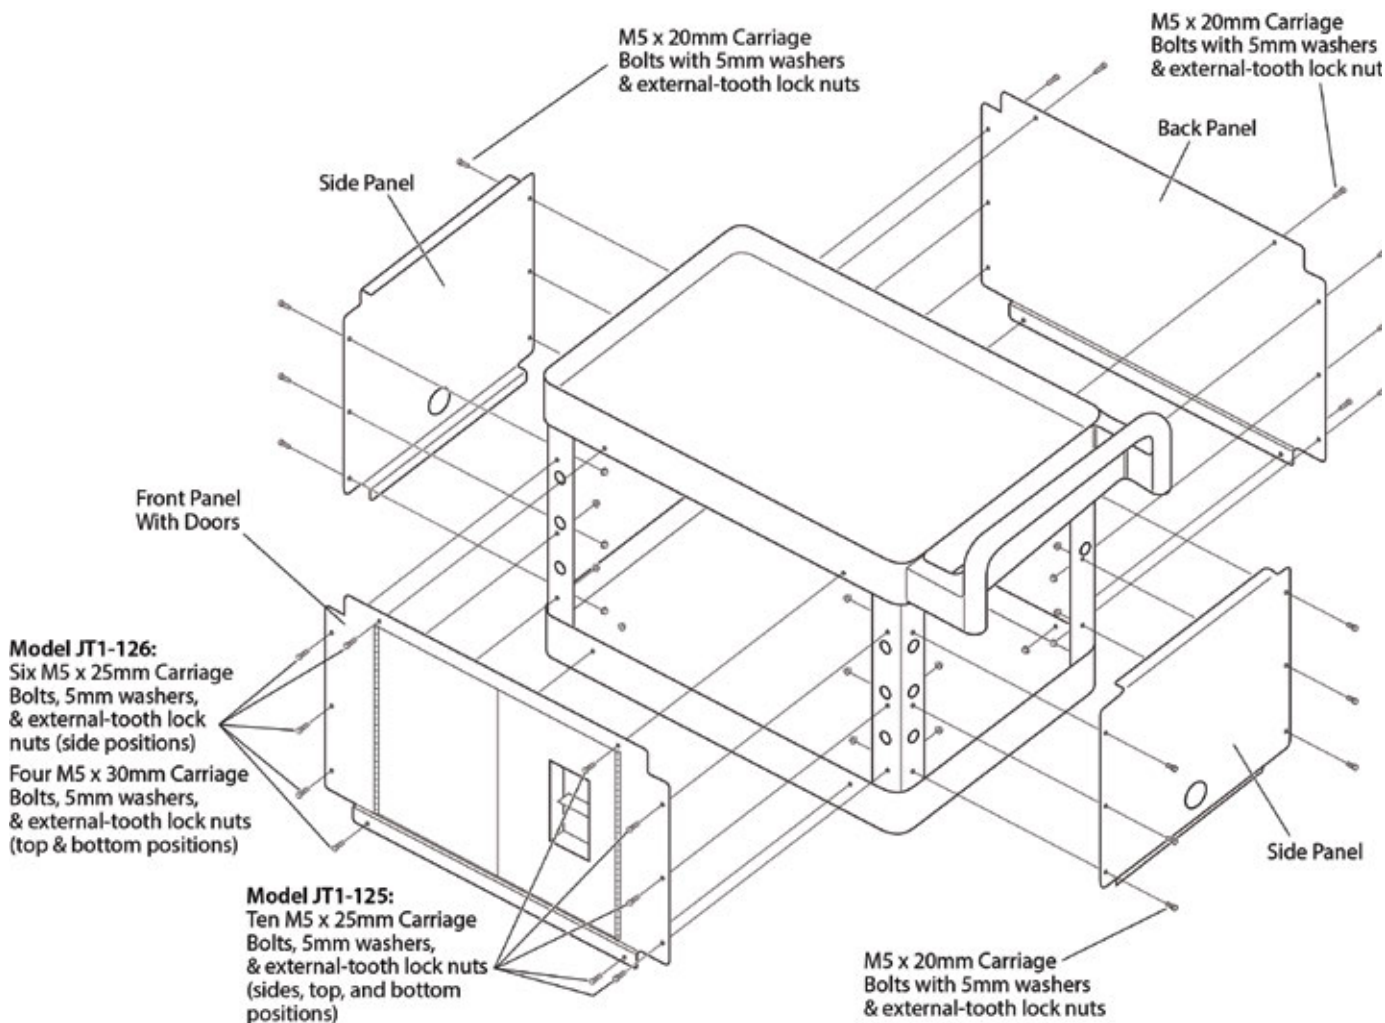

Figure 1: Installing LOAD-N-LOCK™ Utility Cart Security System Panels
Refer to Assembly Illustration (Figure 1) on Page 3
## Refer to Assembly Illustration (Figure 1) on Page 3
2. Lay the front door panel in place on the cart as shown in Figure 1. Cut the zip tie to release the latch. Rotate the latch to allow the front door panel to rest flat against the cart. Make sure the panel is centered side to side within the opening. Push the panel to the top of the cart opening.